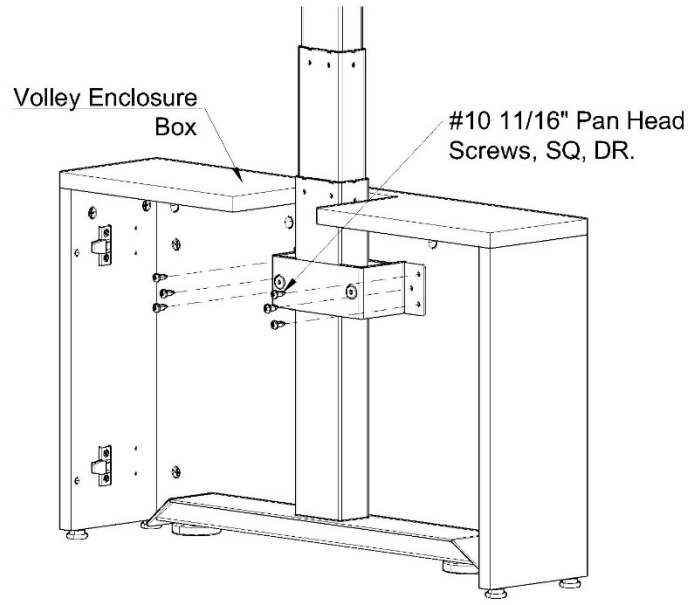

Figure 9
- 11.** Bring the Volley Enclosure Box and place it around the Table Leg. Adjust the U-Bracket so that the screw holes align with the Pre-Drilled Holes inside the box. Drive the 6 - #10 11/16" Pan Head, Square Drive Screws and fasten the U-Bracket with the Box as shown in Figure 9.